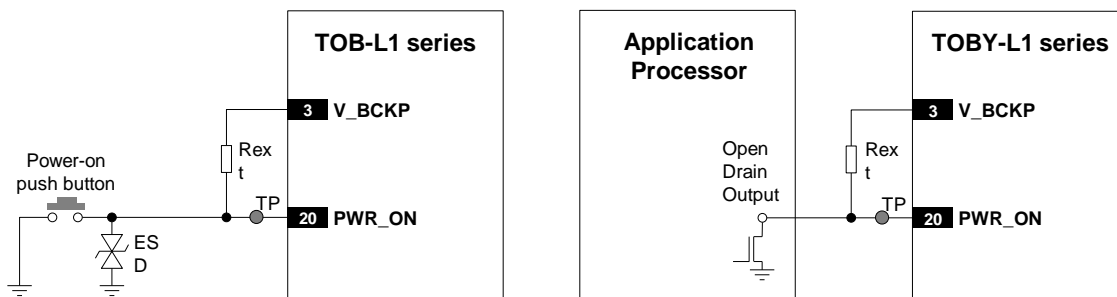

Figure 18: PWR\_ON application circuits using a push button and an open drain output of an application processor
2.2.1.2 Pull-up resistor (e.g. 100 kΩ) biased by the **V\_BCKP** supply pin of the module, as described in Figure 18 and Table 14. Connecting the **PWR\_ON** input to a push button, the pin will be externally accessible on the application device: according to EMC/ESD requirements of the application, provide an additional ESD protection (e.g. EPCOS CA05P4S14THSG varistor array) on the line connected to this pin, close to accessible point.
Connecting the **PWR\_ON** input to an external device (e.g. application processor), use an open drain output on the external device with an external pull-up resistor (e.g. 100 kΩ) biased by the **V\_BCKP** supply pin of the module, as described in Figure 18 and Table 14.